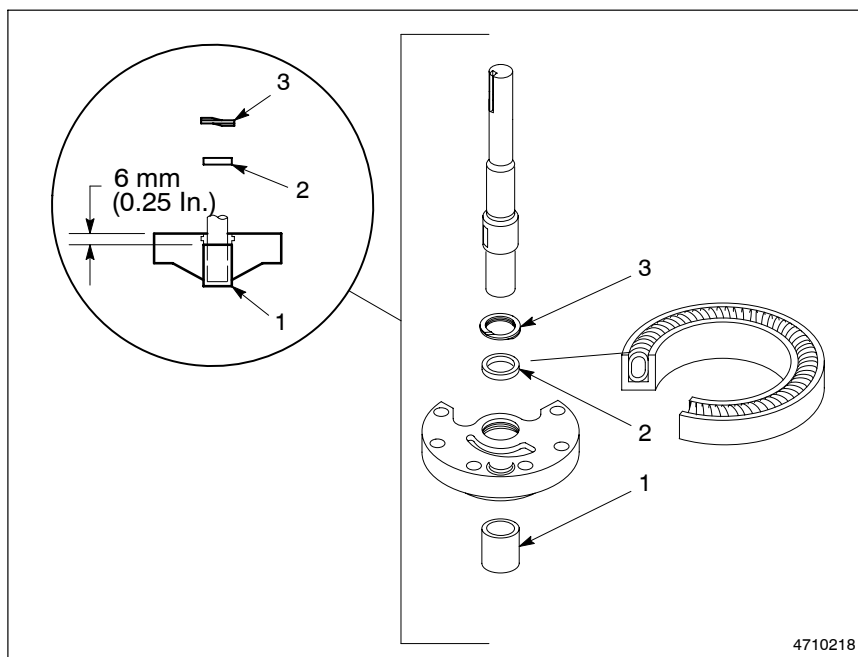

Fig. 7-32 Installing the Closed Needle Bearing, Shaft Seal, and Internal Retainer Ring
1. See Figure 7-32. Coat the interior and exterior of the new closed needle bearing (1) with high temperature grease.
4. Install the new shaft seal and backup ring (2) into the lower pump plate with the exposed spring facing out. The seal and backup ring seat against the bearing.